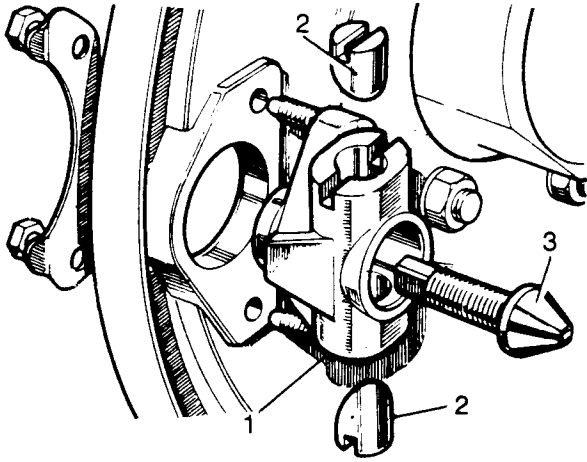

Fig K2.8
- (15) Refer to Fig K2.8. Remove the adjuster unit assembly (1).
- (16) Pull out the adjuster plungers (2).
- (17) Unscrew the adjuster cone (3).